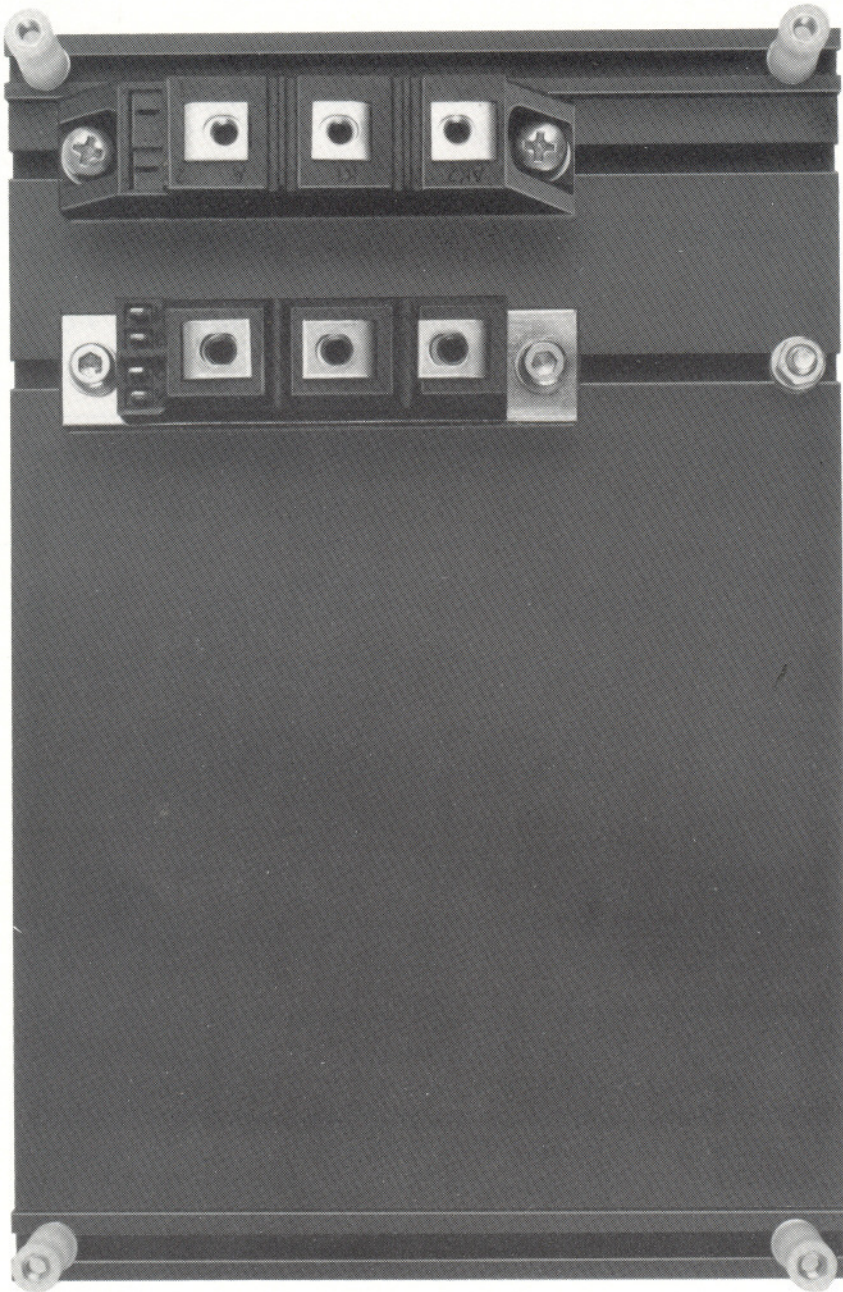

Fig. 7 Heatsink with Thyristor and Diode Modules
7.2 Thyristors and Diode Modules (Fig. 7)